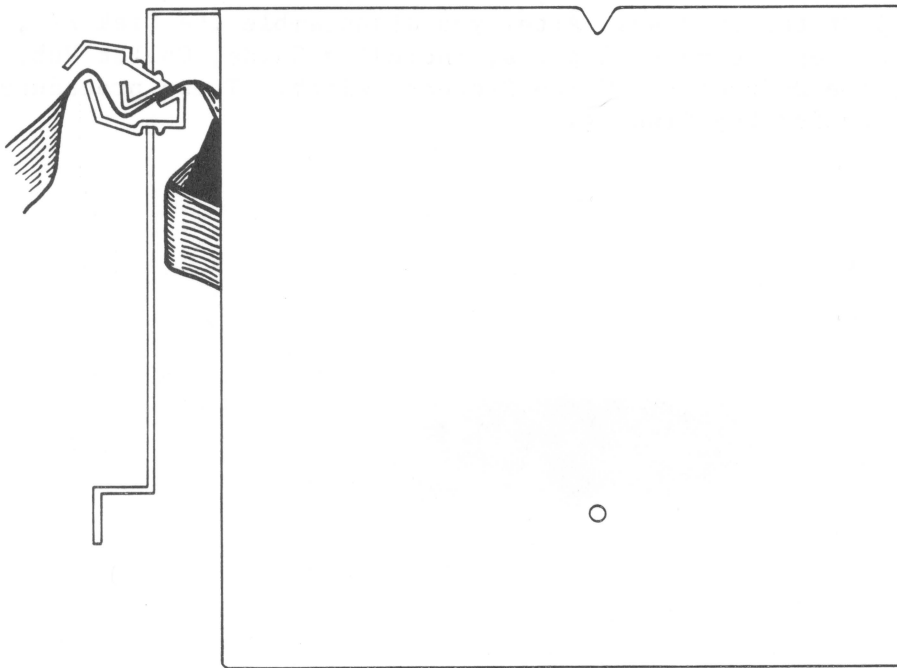

FIGURE 1
10. Remove the flat cable from the back of the drive by pressing the strain relief (Figure 1) out of the slot and removing the cable. Slip a screwdriver inside the metal shield and pry down on the strain relief while simultaneously pulling down and out from outside. Be sure not to crush the cable when prying the strain relief. (Large pliers can be used to compress the strain relief enough to separate it from the mounting bracket.) The relief will come apart in two pieces. The strain relief can be a real bear, so be persistent!